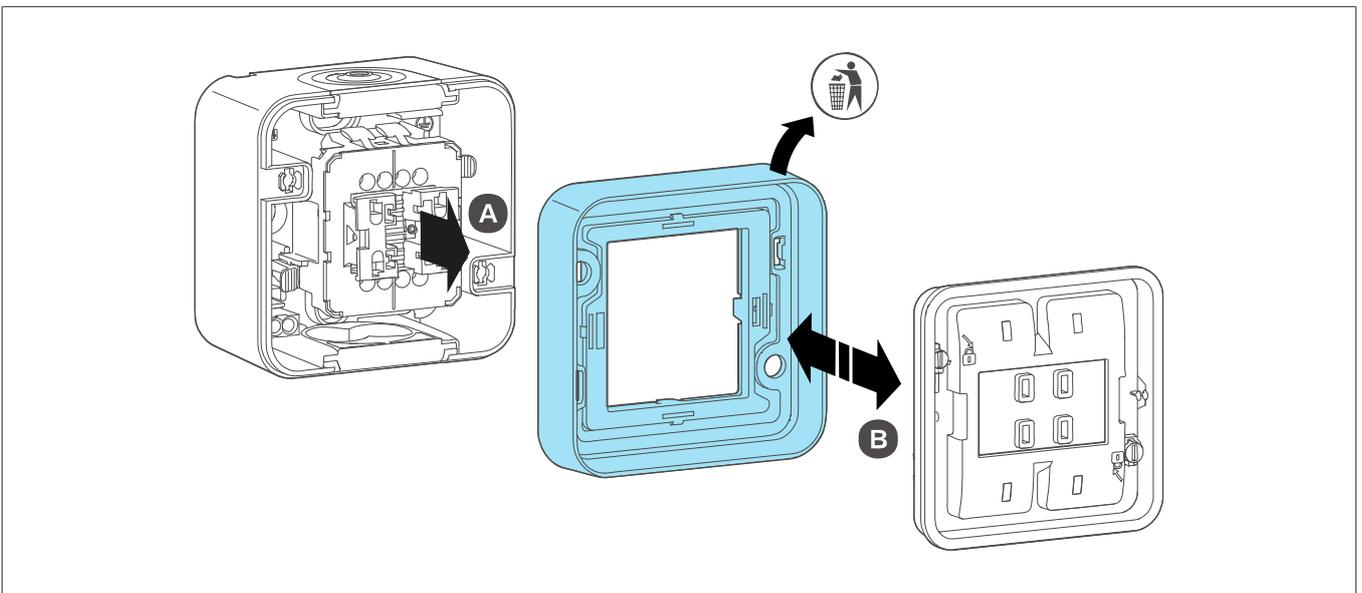

Fig. 4: Remove the cover frame and sealing
- 3 Remove the cover frame (3) from the surface-mounted housing (A) and separate the sealing (2) from the cover frame (B) (Fig. 4).